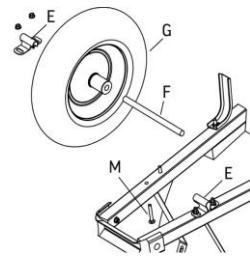

Fig. 7
13. Slide the axle (F) through the wheel (G) and then into the attach bracket (Fig. 7).
14. Slide the second axle bracket over the other end of the axle (Fig. 7).